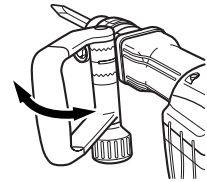
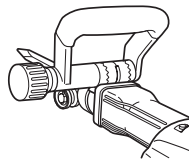
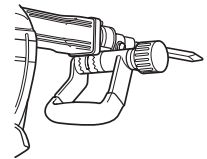

Fig. 5
Fig. 6
Fig. 7
- (2) Adjust it to a position where vertical (up-and-down) operation can be facilitated as illustrated in Fig. 5, Fig. 6, and Fig. 7.
- (3) Turn the grip in the direction of **B** and fix the handle.